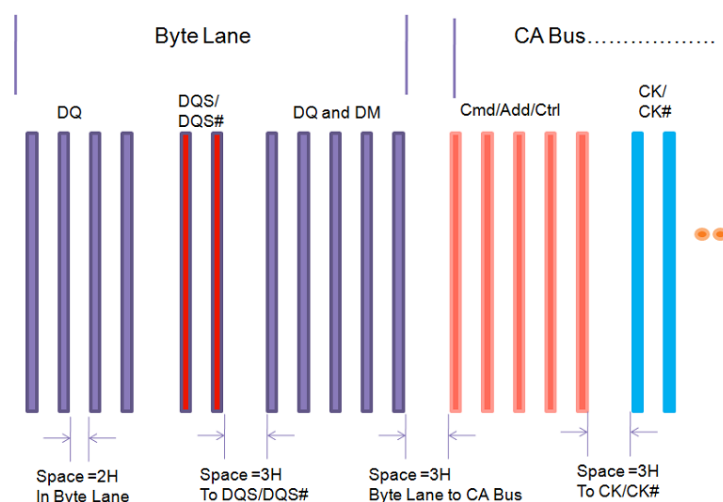

Figure 4-5 Spacing between Different Signal Groups
- The crosstalk and characteristic impedance of an array of traces are interrelated. In order to minimize crosstalk, the characteristic impedance of a trace should be determined predominantly by the distance to the reference plane and not the distance to the neighboring traces. To achieve this, the space between traces should be twice the height of the trace above the ground plane. Figure 4-5 show the recommended spacing ("H" means the height from reference plane.).
- VREF is used as a reference by the input buffers of the DDR3 memories. It is recommended to be 1/2 of the DDR3 power supply voltage and should be created using a resistive divider as shown in the schematic. Other methods are not recommended. Figure 4-5 shows the layout guidelines for VREF.